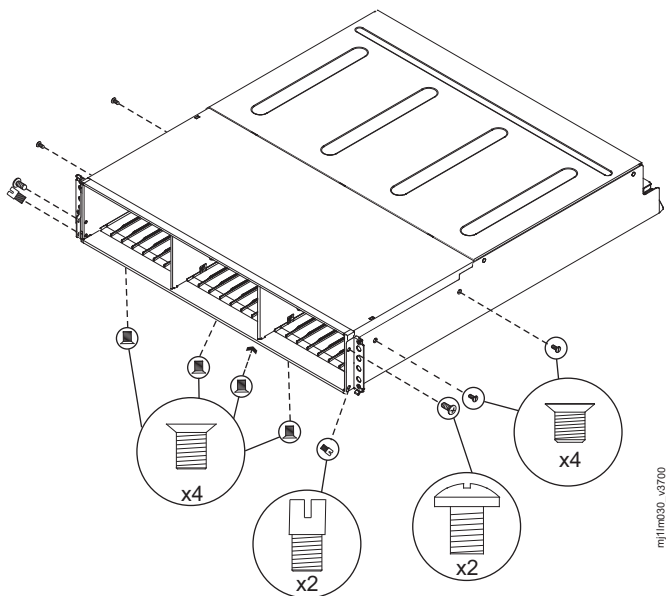

Figure 76. Removing the screws of an expansion enclosure assembly
12. Remove the four screws from the bottom of the enclosure (see Figure 76 on page 244). Remove the three screws that are near the front and the screw that is near the middle. Label these screws to indicate the location from which they are removed and place them aside.
14. Remove the three screws and one screw-pin on the right side that secure the midplane assembly to the enclosure (see Figure 76). Label the screws to indicate the location from which they are removed and place them aside.
15. Remove the three screws and one screw-pin on the left side that secure the midplane assembly to the enclosure (see Figure 76). Label the screws to indicate the location from which they are removed and place them aside. See Figure 4.